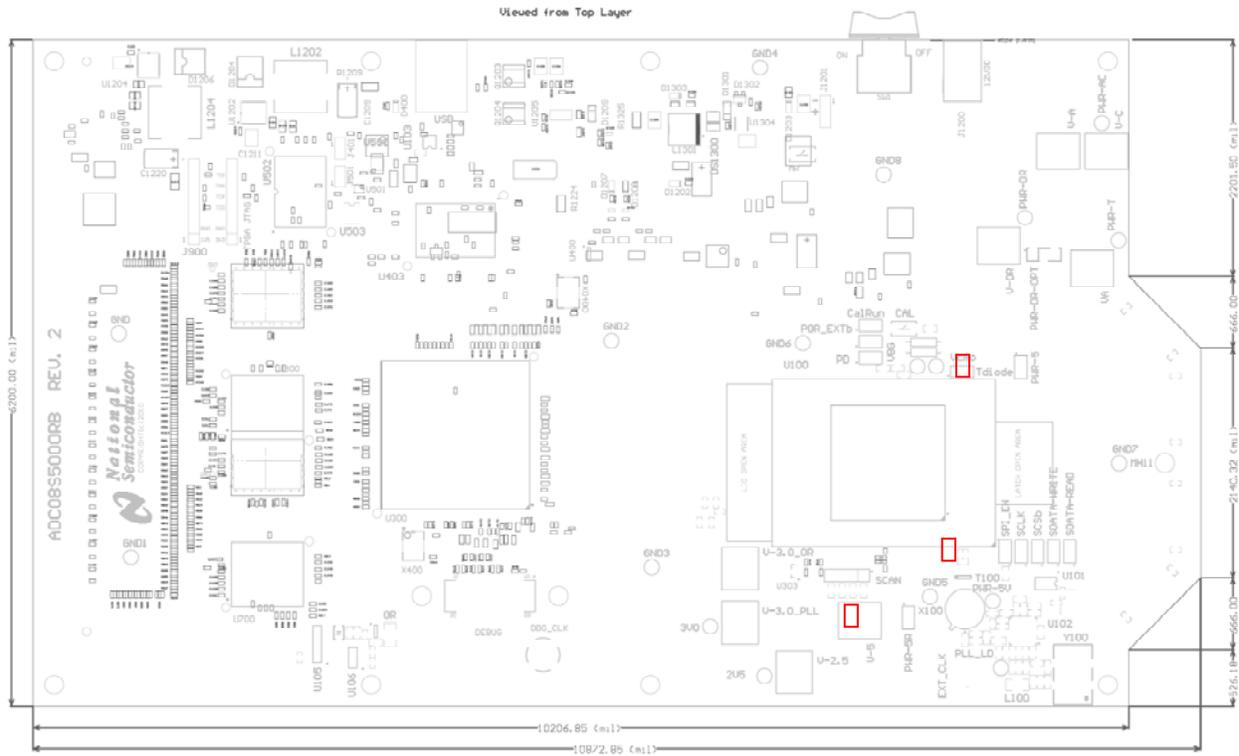

Figure 2: Jumpers and LEDs
2. Make sure the board's jumpers are configured as shown in Figure 2:
Prior to capturing data, confirm that the board is in the "ECE (Extended Control Enable)" mode, The ECE jumper is located in the ADC pin control jumper area as shown in Figure 2. The board should be sent with this jumper in place. This means that the ADC will be controlled through the SPI interface and not with jumpers driving the control pins. This allows the user to control the ADC's behavior through the WaveVision 5 Registers panel.